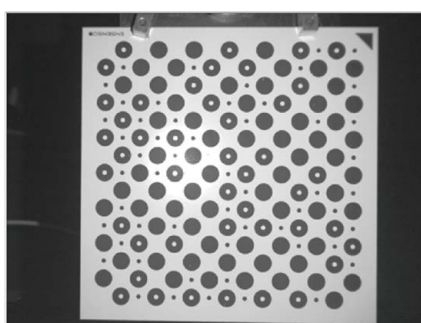

Fig.7-21 Live image in the initial robot position (example)
- Each side of the marker is almost parallel (within 5 degrees) to its corresponding side of the angle of view. (Fig.7-21 Live image in the initial robot position (example))